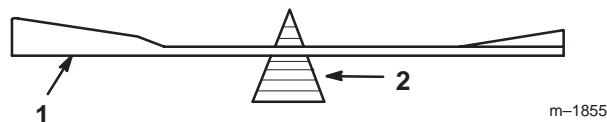
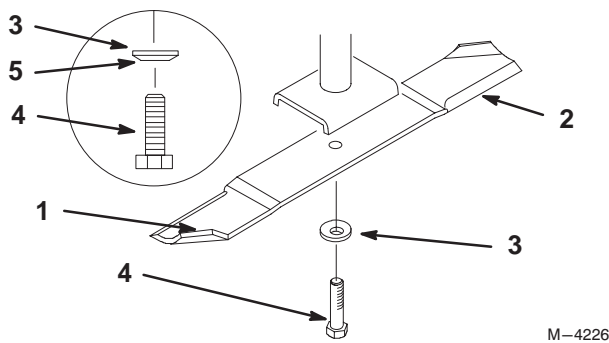

Figure 22
Figure 23
1. Hold the blade end using a rag or thickly-padded glove. Remove the blade bolt, spring disk and blade from the spindle shaft (Fig. 23).
2. Check the balance of the blade by putting it on a blade balancer (Fig. 22). If the blade stays in a horizontal position, the blade is balanced and can be used. If the blade is not balanced, file some metal off the end of the sail area only (Fig. 23). Repeat this procedure until the blade is balanced.
1. Install the blade onto the spindle shaft (Fig. 23).
2. Install the spring disk and blade bolt. The spring disk cone must be installed toward the bolt head. (Fig. 23). **Torque the blade bolt to 85–110 ft-lb (115–150 N•m).**